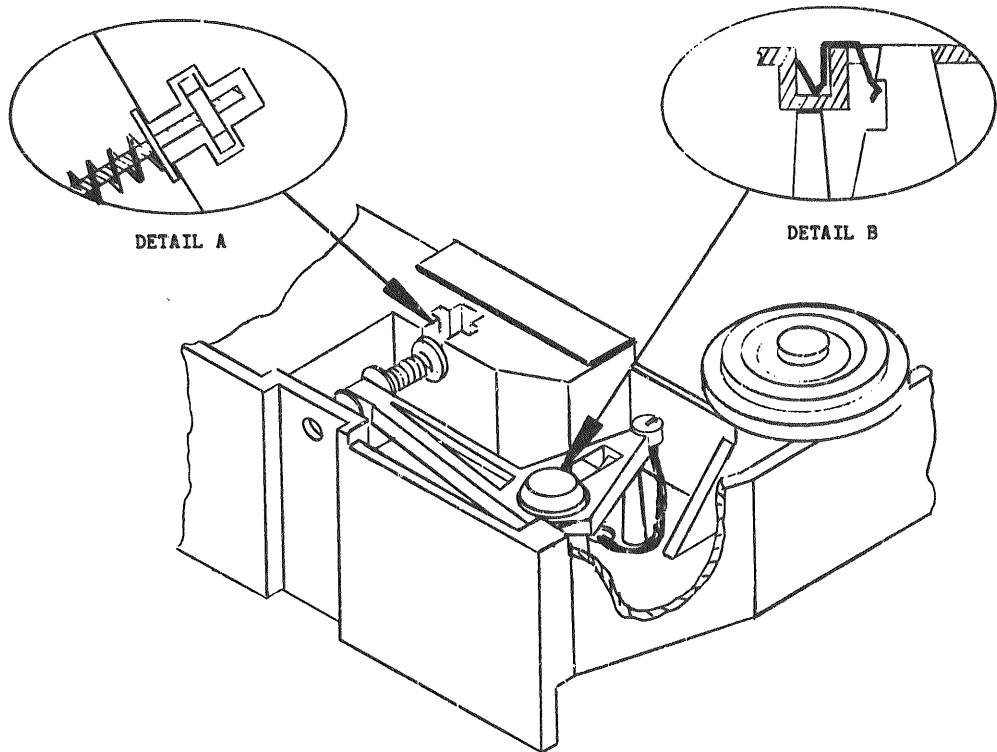

Figure 6-16. Index Sensor Assembly Placement
- d. Remove the index spring using a flat blade screwdriver, and slide the entire assembly off its mounting post (see Figure 6-16, Detail B).
- e. Slip the nut of the adjustment screw out of the slot in the casting; it may be necessary to unscrew the adjustment screw to release the nut (see Figure 6-16, Detail A).
- h. Place the replacement sub-assembly in its approximate mounting position; and slide the nut of the adjustment screw into the slot in the casting, ensuring that the washer is between the casting wall and the tension spring (see Figure 6-16, Detail A). Turn the adjustment screw clockwise several times to lock the nut in place.
- i. Slide the sub-assembly onto the mounting post and into position (see Figure 6-16, Detail B).